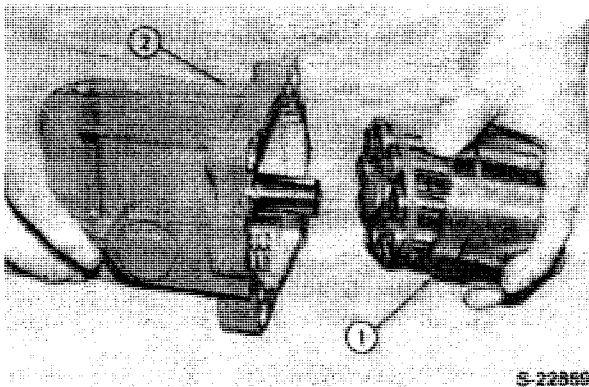

Figure 49
4. Remove the motor cylinder block and piston assembly, Figure 49.